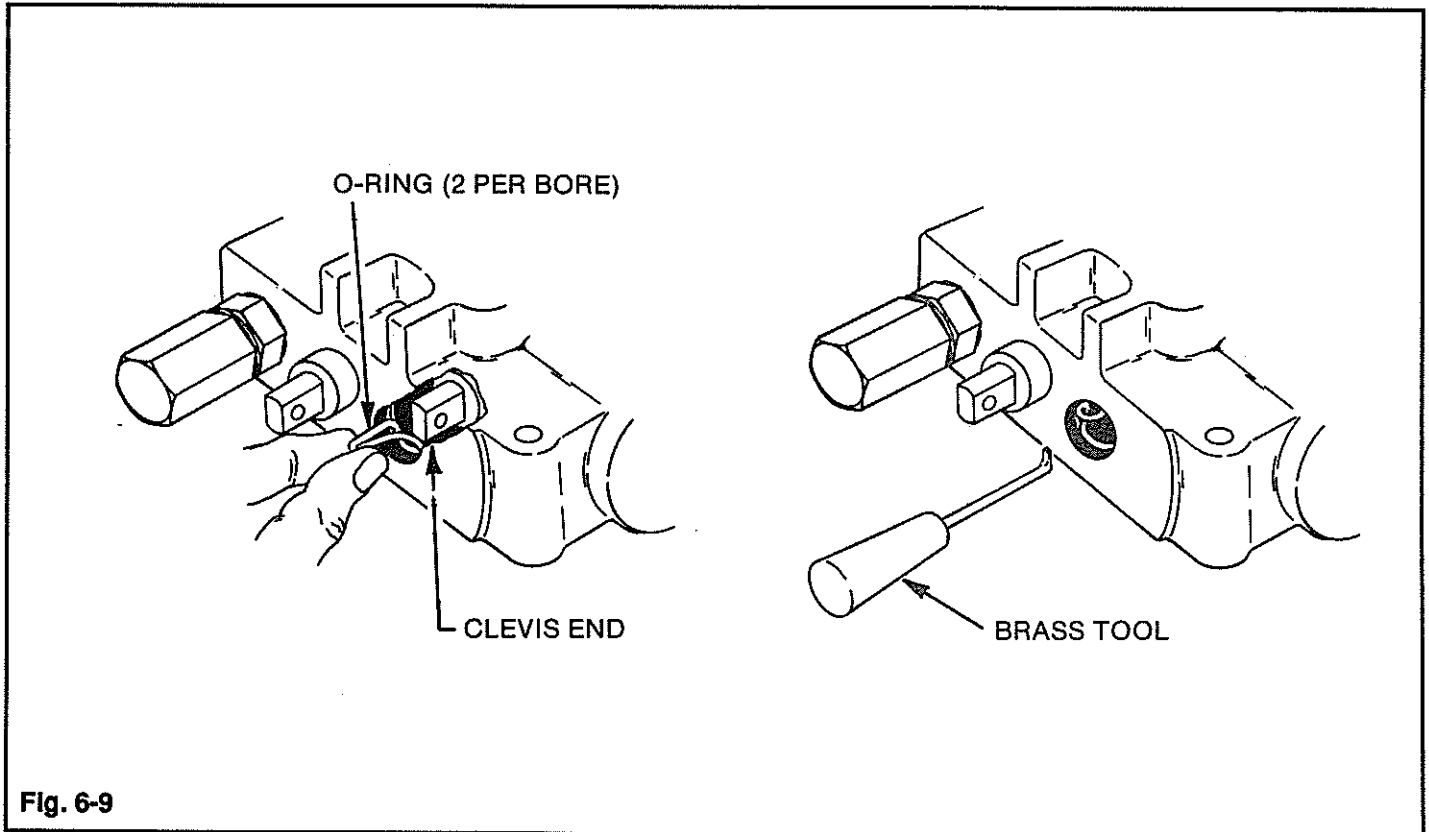

Fig. 6-9
REPAIRING THE HYDRAULIC CONTROL VALVE, (TWO SPOOL VALVE, FIG. 6-9)
2. Remove valve spool from valve body. Using a brass tool (shown in Fig. 6-9)
3. Insert part of "O"-ring into groove and let loose. With a brass tool (as shown in Fig. 6-9), guide "O"-ring into groove.